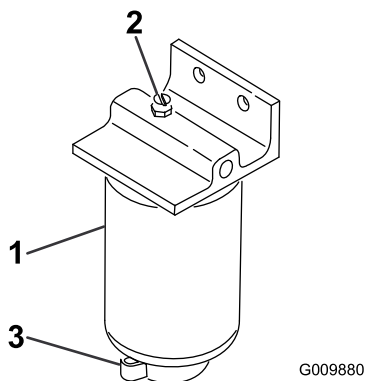

Figure 63
2. Loosen the drain valve on the bottom of the filter canister (Figure 63).
1. Clean the area where the filter canister mounts (Figure 63).